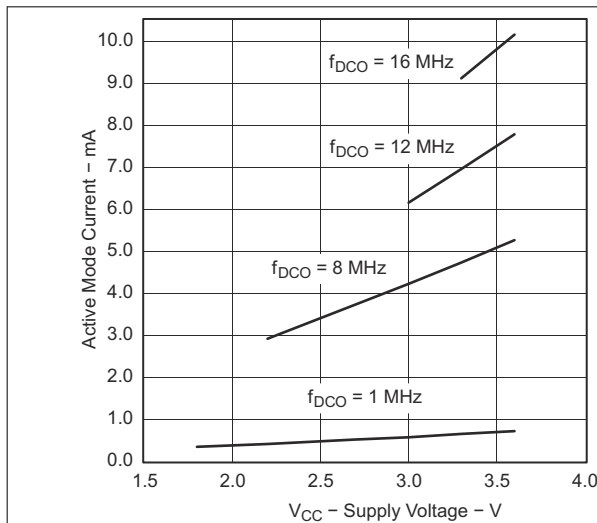
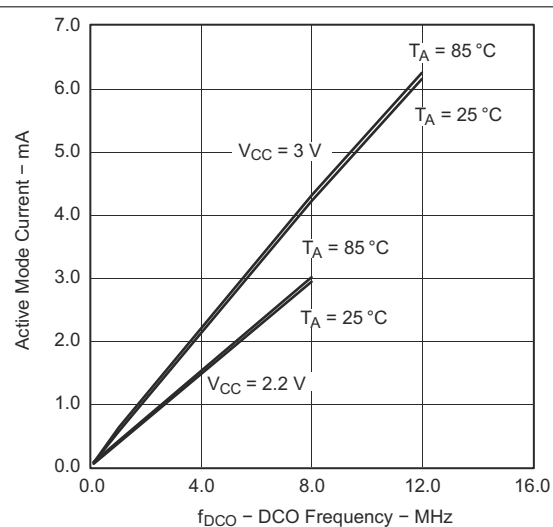

图 8-2. Active Mode Current vs Supply Voltage (T_A = 25°C)
图 8-3. Active Mode Current vs DCO Frequency
over recommended ranges of supply voltage and operating free-air temperature (unless otherwise noted)^{(1) (2)} (see 图 8-2 and 图 8-3)